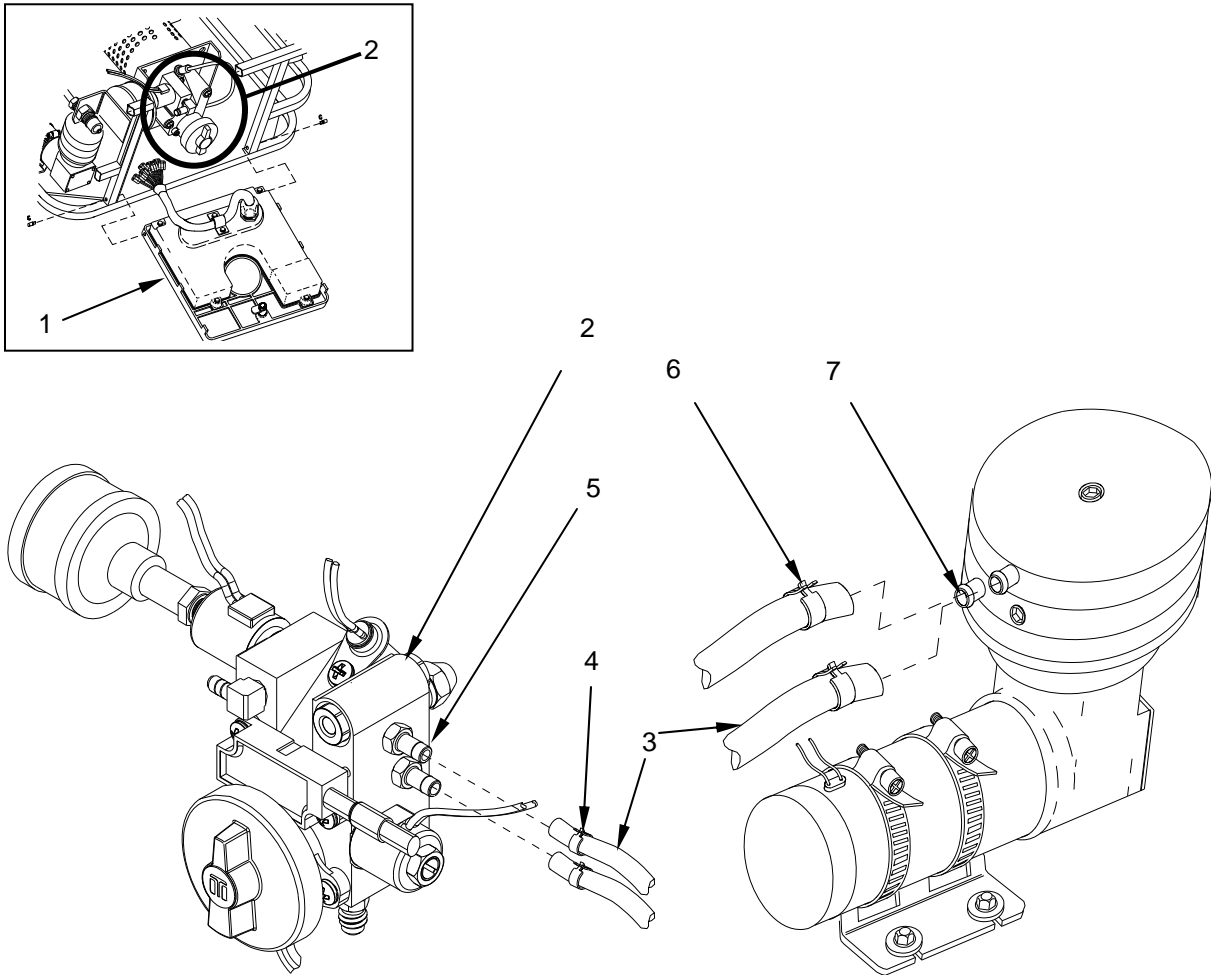
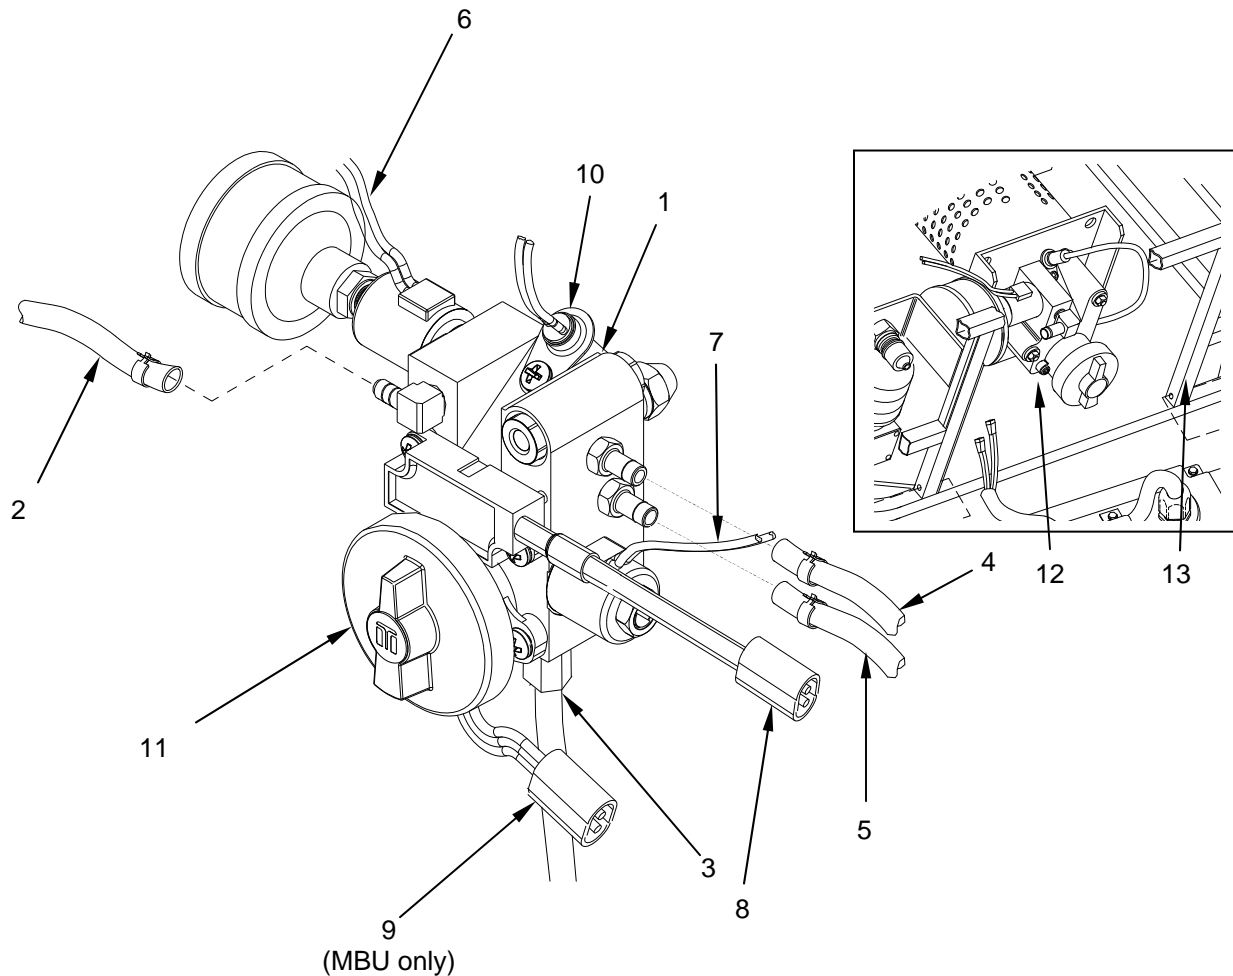

Figure 15. Replace the Air Line to Compressor.
Figure 16. Replace the Fuel Delivery Block Assembly.
2. Open control panel (Figure 15, Item 1) to gain access to the fuel delivery block assembly (Figure 15, Item 2). Remove the fuel delivery block IAW the section of this WP titled "Remove/Install Fuel Delivery Block."
3. To replace either of the neoprene air lines (Figure 15, Item 3), squeeze the tabs on hose clamp (Figure 16, Item 4) with a pair of pliers and slide the clamp off the fuel delivery block fitting (Figure 16, Item 5) and onto the air line.
4. Squeeze the tabs on hose clamp (Figure 15, Item 6) with a pair of pliers and slide the clamp off the air compressor fitting (Figure 15, Item 7) and onto the air line (Figure 15, Item 3).
5. After removing the clamp, grasp the end of the air line (Figure 15, Item 3) connected to the fuel delivery block fitting (Figure 15, Item 5) and pull while wiggling from side to side, until the line is free. If any of the fuel delivery block fittings require replacement, simply loosen with an open end wrench and install a new fitting.
6. Remove the end of the air line (Figure 15, Item 3) connected to the air compressor fitting (Figure 15, Item 7) in a similar manner. If any of the air compressor fittings require replacement, simply loosen with an open end wrench and install a new fitting.
7. Using the damaged air line (Figure 15, Item 3) as a size guide, cut a new piece of air line of the same length from the bulk supply of neoprene hose. Remove the clamps (Figure 15, Items 4 and 6) from the damaged air line and install on the new line, sliding each about 1.5 to 2 inches from the end.
8. Install the serviceable line, pushing one end fully onto the fuel delivery block fitting (Figure 15, Item 5) and the other end onto the air compressor fitting (Figure 15, Item 7).
9. Squeeze the tabs on the clamps (Figure 15, Item 4 and Item 6) with a pair of pliers and slide one clamp up on the fuel delivery block fitting (Figure 15, Item 5) and the other end onto the air compressor fitting (Figure 15, Item 7). Be sure to position the tabs so that they can be easily accessed should service be required at a later date.
10. Close the control panel (Figure 15, Item 1).
1. Remove fuel delivery block (Figure 16, Item 1) from the burner tube mounting studs IAW procedures given in this WP entitled "Remove/Install the Fuel Delivery Block."
2. To replace the entire fuel delivery block assembly (Figure 16, Item 1), disconnect the fuel line (Figure 16, Item 2), fuel feeder line (Figure 16, Item 3), and air hoses (Figure 16, Items 4 and 5) from the fuel delivery block assembly.
3. Disconnect the air/fill solenoid harness connector (Figure 16, Item 6) and the fuel shut-off solenoid harness connector (Figure 16, Item 7).
4. Disconnect the flame sensor harness connector (Figure 16, Item 8).
5. Disconnect the feedback potentiometer, if fitted (MBU only) (Figure 16, Item 9).
6. Disconnect the igniter assembly (Figure 16, Item 10). Remove the control knob (Figure 16, Item 11) and the ground wire (Figure 16, Item 12).
7. Remove the fuel delivery block assembly from the MBU frame (Figure 16, Item 13).
8. To install the serviceable fuel delivery block assembly (Figure 16, Item 1), place the assembly in the MBU frame (Figure 16, Item 13) with the control knob (Figure 16, Item 11) facing toward the front of the MBU.
9. Connect the fuel line (Figure 16, Item 2), fuel feeder line (Figure 16, Item 3) and air hoses (Figure 16, Items 4 and 5) to the fuel delivery block assembly (Figure 16, Item 1). Note that neoprene hoses are two sizes. Install correct size hose on correct size fitting.
10. Connect the air/fill solenoid harness connector (Figure 16, Item 6) and the fuel shut-off solenoid harness connector (Figure 16, Item 7).
11. Connect the feedback potentiometer, if fitted (MBU only) (Figure 16, Item 9).
12. Connect the flame sensor harness connector (Figure 16, Item 8). This will not be connected after replacement with a MBU-V3 fuel delivery block.
13. Install the ground wire (Figure 16, Item 12).
14. Install the fuel delivery block (Figure 16, Item 1) onto the burner tube mounting studs IAW procedures given in this WP entitled "Remove/Install the Fuel Delivery Block."